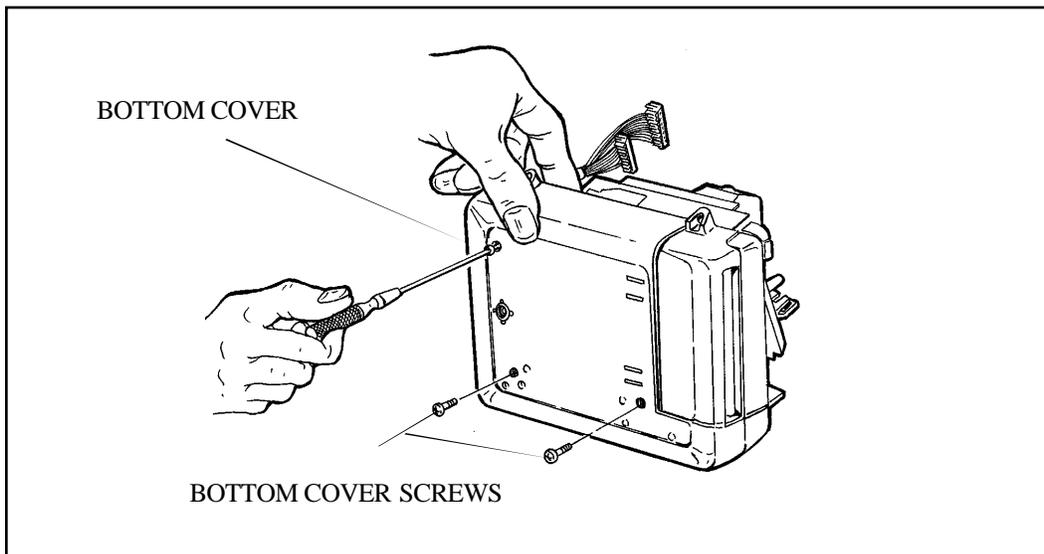

Figure 3-17. Removing Bottom Cover Screws
- d. Remove the three Bottom Cover Screws (Fig. 3-17), but leave Bottom Cover in place.